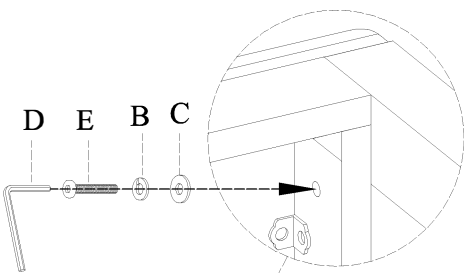

Figure 8
9. Repeat step 6,7 for the leg frames and stretchers. As Shown in Figure 8,9.